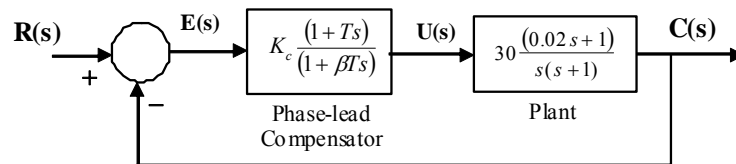

Figure 3.1
3. Consider the closed-loop system for controlling a robot arm shown in figure 3.1, which incorporates a phase-lead compensation scheme.